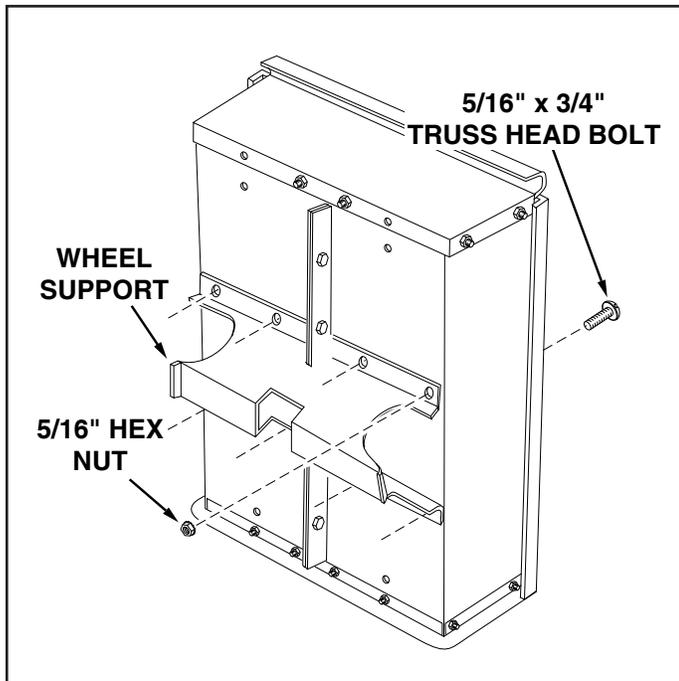

FIGURE 5
11. Assemble the wheel support to the cart using eight 5/16" x 3/4" truss head bolts and 5/16" hex nuts as shown in figure 5. Heads of bolts go on the inside of the cart. **Tighten**.